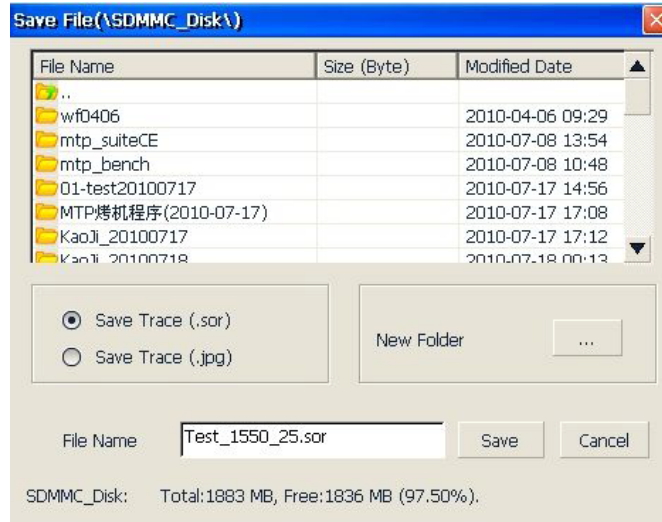

Fig. 7.2 Save dialog window
Save dialog window and options are shown below in Fig 7.2:
- Title bar will show the current folder path, as shown in Fig 7.2: “\SDMMC\_DISK\Traces\”.